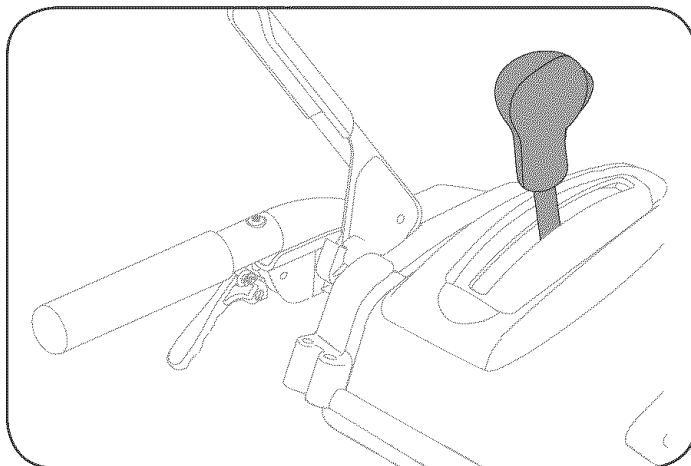

Figure 3
3. Place the 4-way chute control in a centered position. See Figure 3.